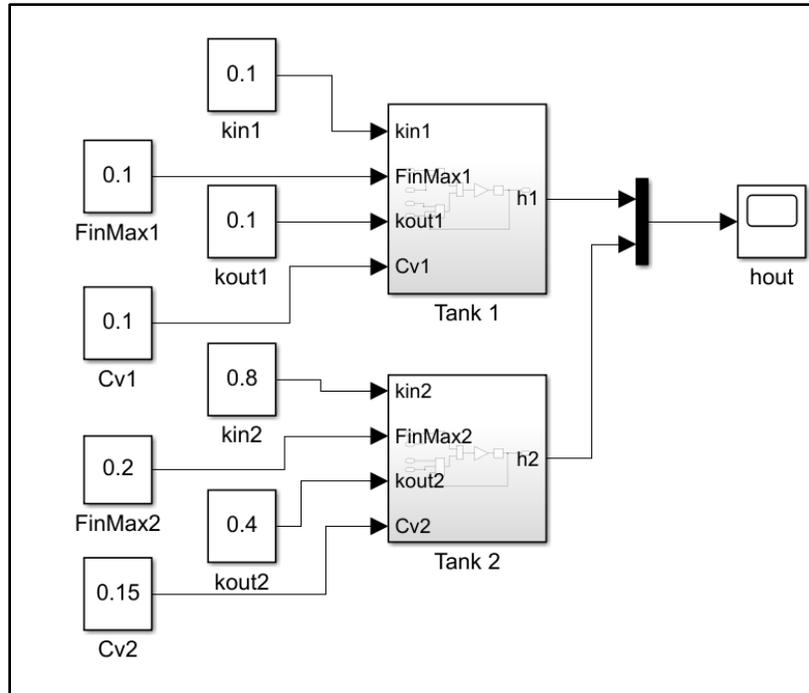

Figure 11. Merging h1 and h2 to a common plot.
3. Direct the output to the scope block. Figure 11.